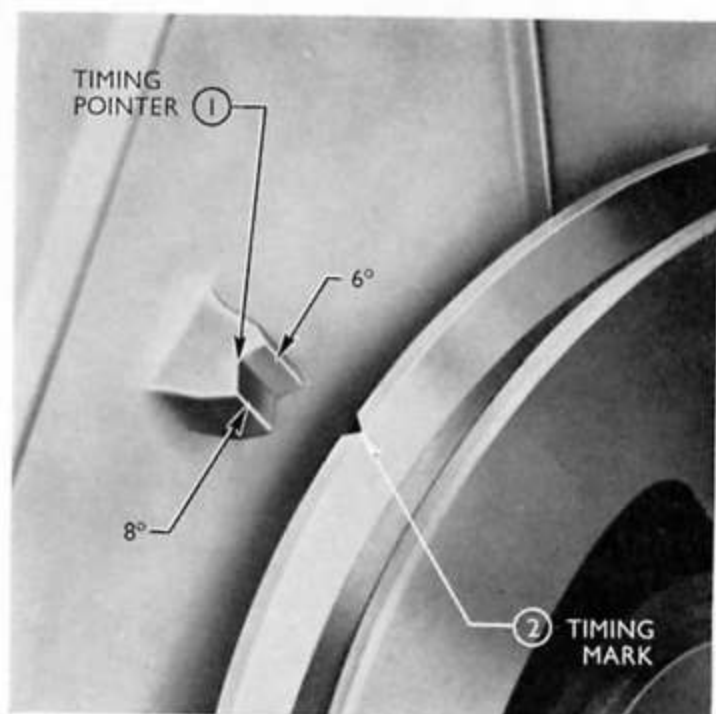

Fig. 46
1. Set the engine with the upper (inner) timing mark on the timing cover in line with the notch in the crankshaft pulley as No. 1 piston comes up on the compression stroke (see Fig. 46).
(c) The static advance of 8° H.C. or 6° L.C. before T.D.C. is "built in" to the engine and when No. 1 cylinder is on the compression stroke and the mark on the crankshaft pulley aligns with the appropriate mark on the front cover timing pointer (see Fig. 46) the crankshaft is at the static advance setting and no further adjustment is required at this stage, see operation A5.
Continue turning the engine until the mark on the crankshaft pulley is in line with the appropriate mark on the front cover timing pointer (see Fig. 46).
4. Point the timing light at the timing pointer. Check that the mark on the crankshaft pulley is adjacent to the appropriate mark on the front cover timing pointer (see Fig. 46).